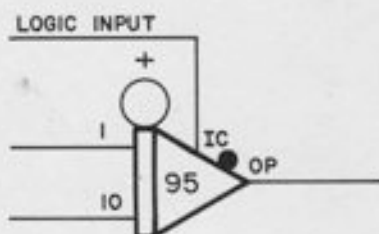

Figure A1.4. Integrator with IC/OP Mode Cycling from a Single Logic Source
2. IC/OP Mode Cycling. To cycle an individual integrator between the IC and OP modes under control of a logic input, the simplest connection is the one shown in Figure A1.4. It is necessary to patch *something* into both the IC and OP terminals, if they are to be completely disconnected from the main computer mode. The connection in Figure A1.4 is based on the fact that the IC input "overrides" the OP input - if both are high, the integrator is in the IC mode. Inserting a pin into the "OP" terminal assures that it is always high regardless of the main computer mode. The logic input is patched to the "IC" terminal; when it is high, the integrator is in IC, and when it is low, the integrator is in operate.